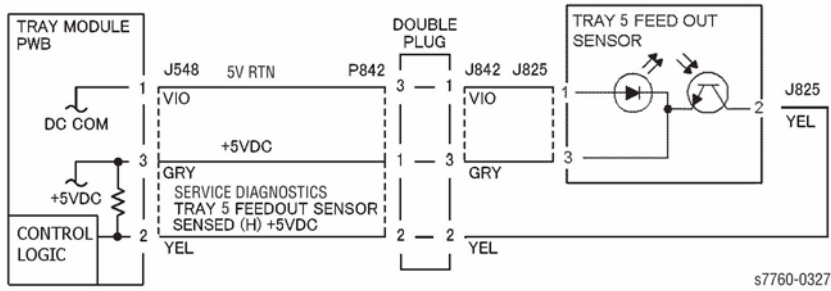
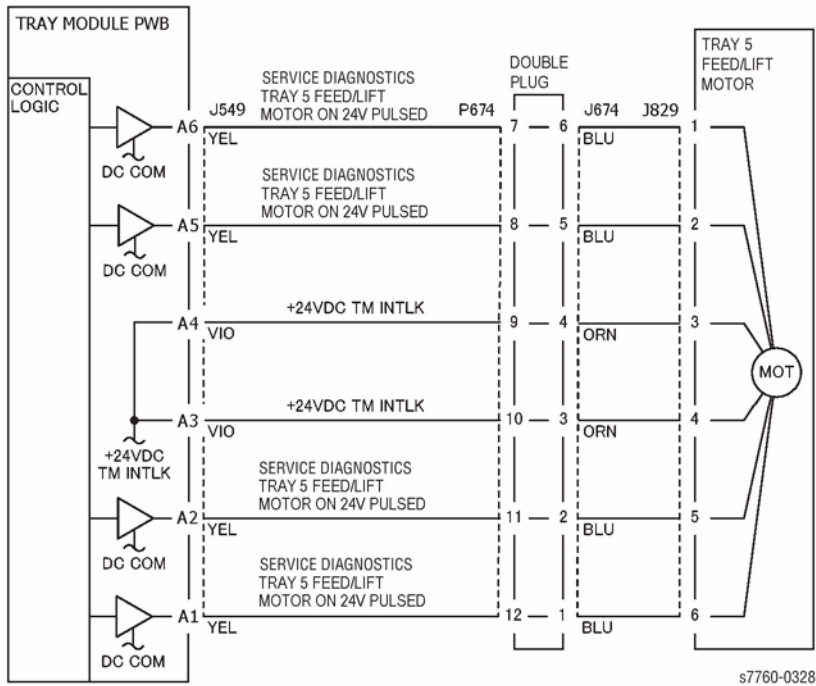
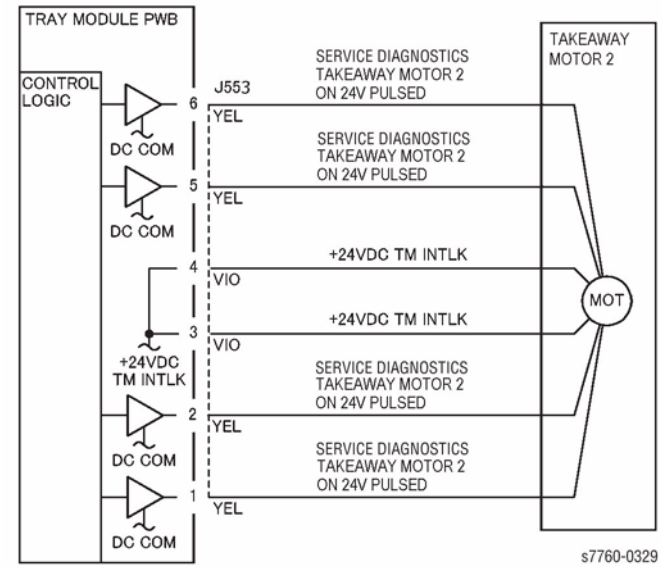

Figure 1 007-119 Tray 5 Feedout Sensor
Figure 2 007-119 Tray 5 Feed/Lift Motor
Figure 3 007-119 Takeaway Motor 2
- Ensure that the connectors shown in the circuit diagrams (Figure 1, Figure 2, Figure 3) are securely connected and that the wires are not damaged.